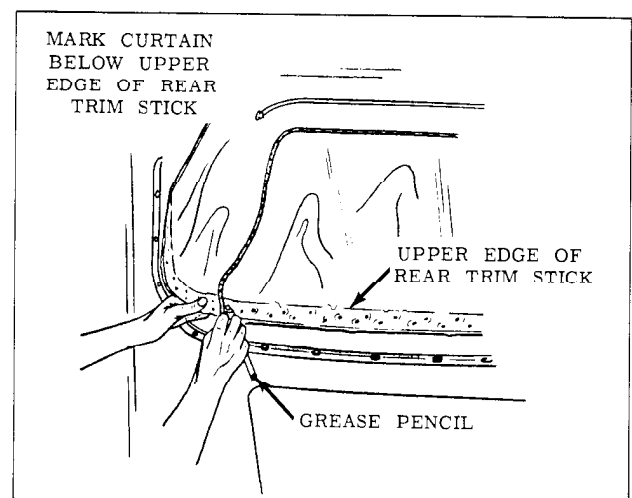

Fig. 15-87 Locating Edge of Top Material
8. To establish the relationship of right and left inner vertical edge of old top material to back curtain assembly at rear trim stick location, mark back curtain vinyl at both locations with a grease pencil. (Fig. 15-87) Reference marks should be transferred to new back curtain when Step 8 of installation procedure is performed.